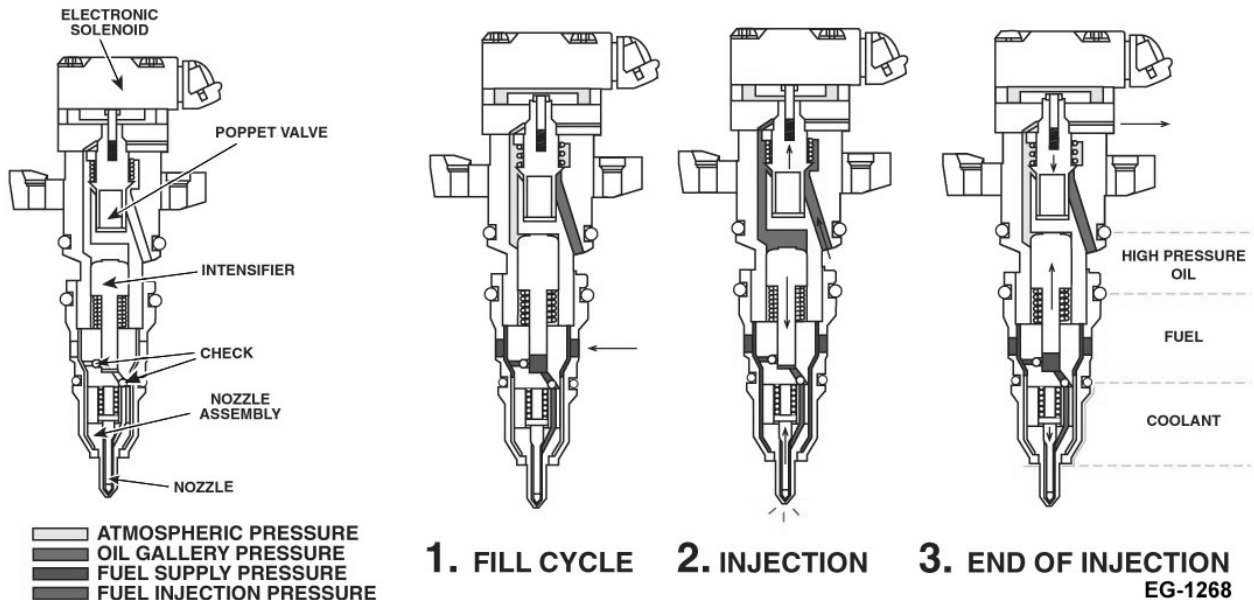

Figure 8 HEUI Injector Stages of Operation
- **Fuel Injector** (See Figure 8, page 13)
Once injection is completed, the ECM deactivates the solenoid, the poppet valve and the intensifier piston return to the closed position and the injector returns to the fill stage (See Figure 8, page 13).